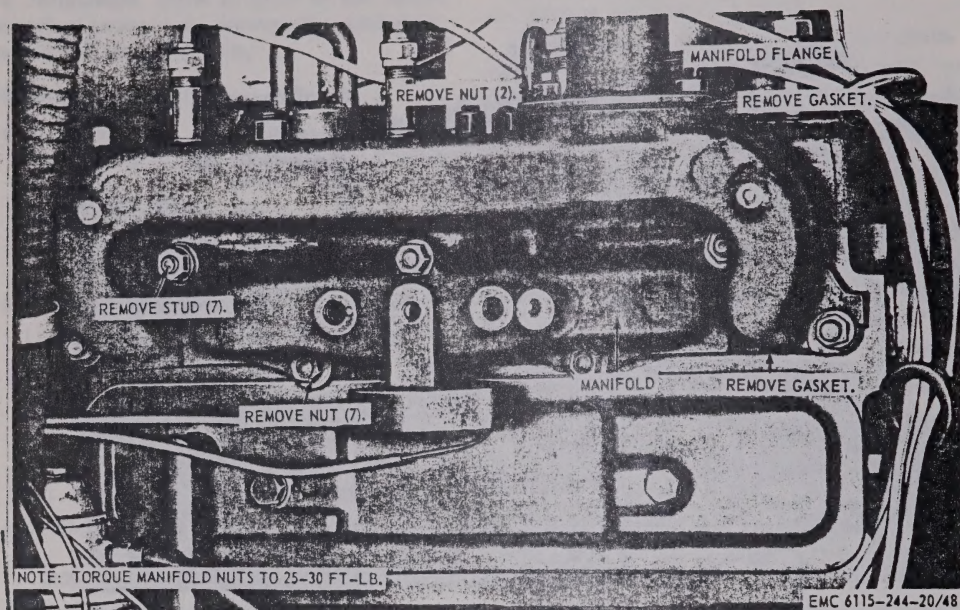

Figure 48. Manifold and manifold flange, removal and installation.
- (1) Remove the carburetor (par. 74).
- (2) Remove the primer fuel tubes and fittings (par. 79).
- (3) Refer to figure 48 and remove the manifold and manifold flange from the engine.
- (1) Refer to figure 48 and install the manifold and manifold flange on the engine.
- (2) Install the primer fuel tubes and fittings (par. 79).
- (3) Install the carburetor (par. 74).